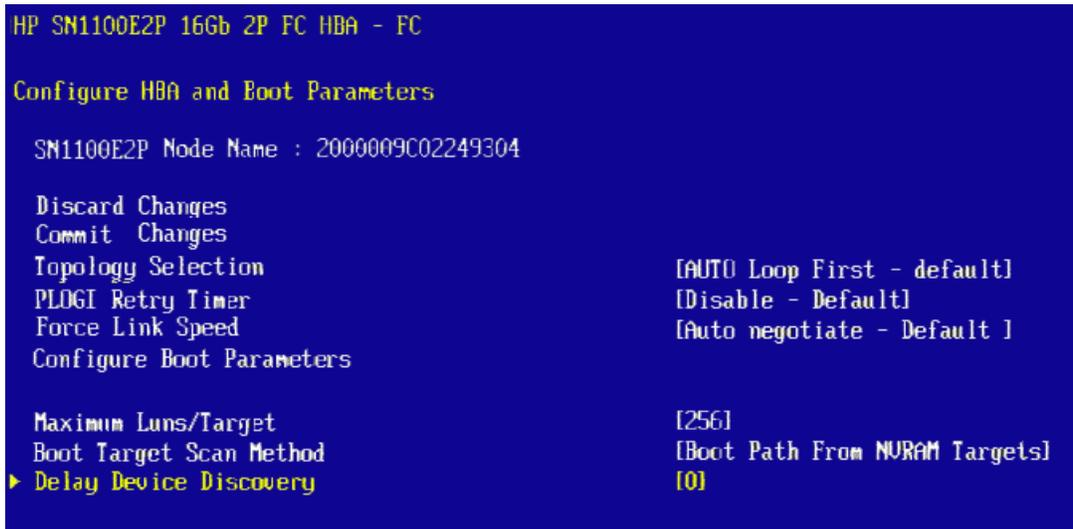

Figure 6-21 Delay Device Discovery Screen
3. From the Configure HBA and Boot Parameters menu (Figure 6-16 on page 60), select **Delay Device Discovery** and press <Enter>. The screen becomes editable (Figure 6-21 on page 66).